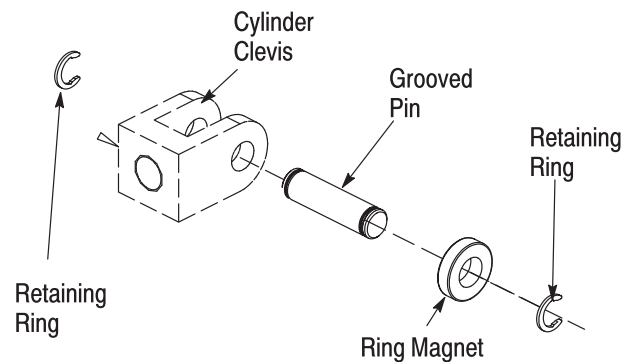

Figure 8
4. Install the retaining rings, ring magnet, and new grooved pin on the cylinder clevis. See Figure 8.